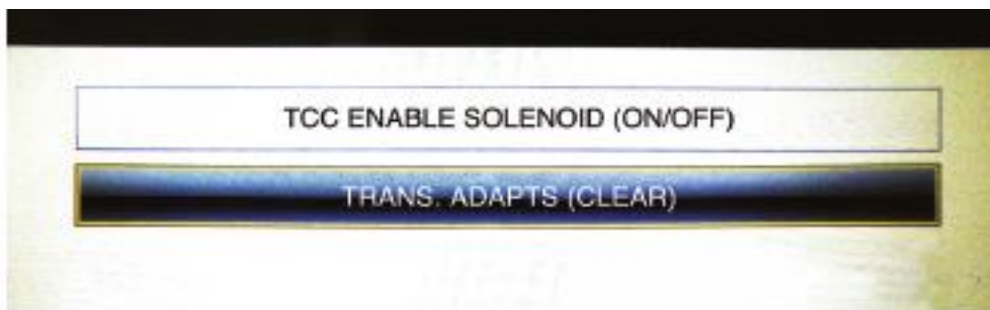

Figure 23. Clearing the adaptive settings.
- Select the fast learn or "Adapts (clear)" process from the scan tool menu. Figure 23.